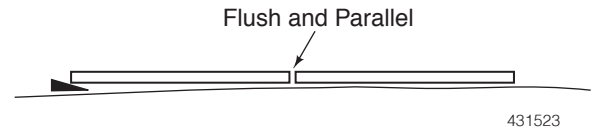

Figure 4
1. Begin by laying the sections of the door face down on a clean and level surface. Block as needed so the door sections are aligned. See Figure 4.